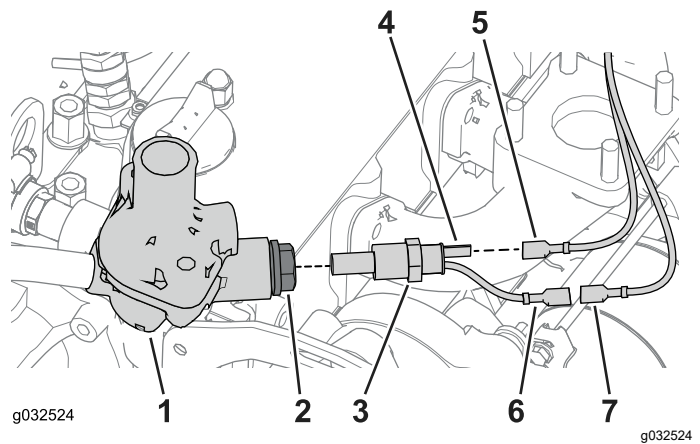

Figure 29
5. Locate the yellow wire that you disconnected in step 2 in Routing the Supply Hose \(page 14\) and connect it to the engine-hot connector of the temperature sensor (Figure 29).
6. Locate the orange wire that is cable tied to the yellow wire, remove the cable tie, and connect the wire to the engine-warm connector of the temperature sensor (Figure 29).
1. Locate the thermostat hosing on the engine block and remove the engine-port plug (Figure 29).